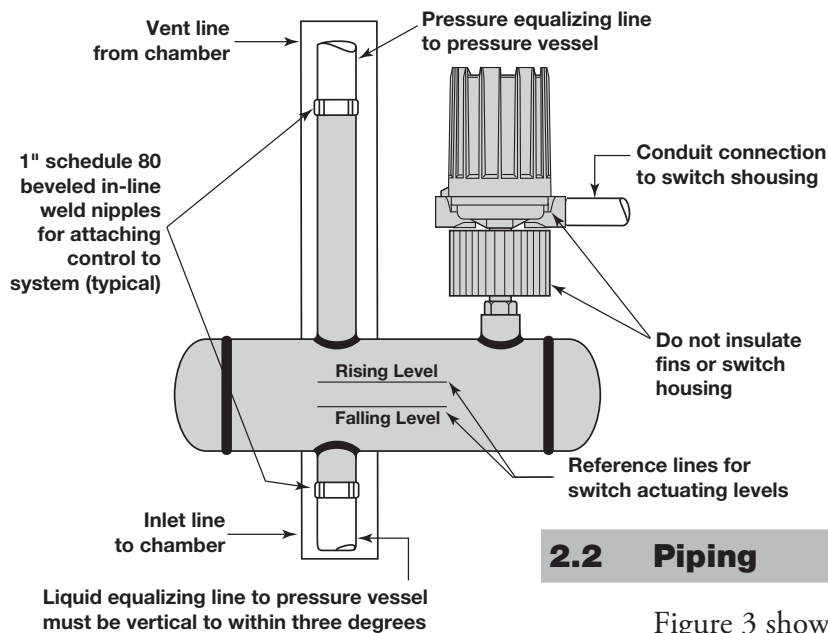

Figure 3
Figure 3 shows a typical piping installation of a Model B40 in a pipeline to a pressure vessel. Reference lines, on float chamber, should be aligned to correspond with liquid level in the vessel at which switch control is desired (refer to dimensional drawing, if furnished). Use pipe of sufficient strength to support the unit. If necessary, provide a stand or hanger to help support its weight. All piping should be straight and free of low spots or pockets so that the lower liquid line will drain towards the vessel and the upper vapor line will drain towards the control. Pipeline should be insulated, as shown, to minimize loss of liquid temperature and further control of the heat in the area of the switch housing. DO NOT insulate switch housing or fins.
6. If switch magnet assembly swings freely and mechanism still fails to actuate, check installation of control to be certain it is within the specified three degrees of vertical. (Use spirit level on side of enclosing tube in two places, 90° apart.) Refer to Figure 3 on page 5.